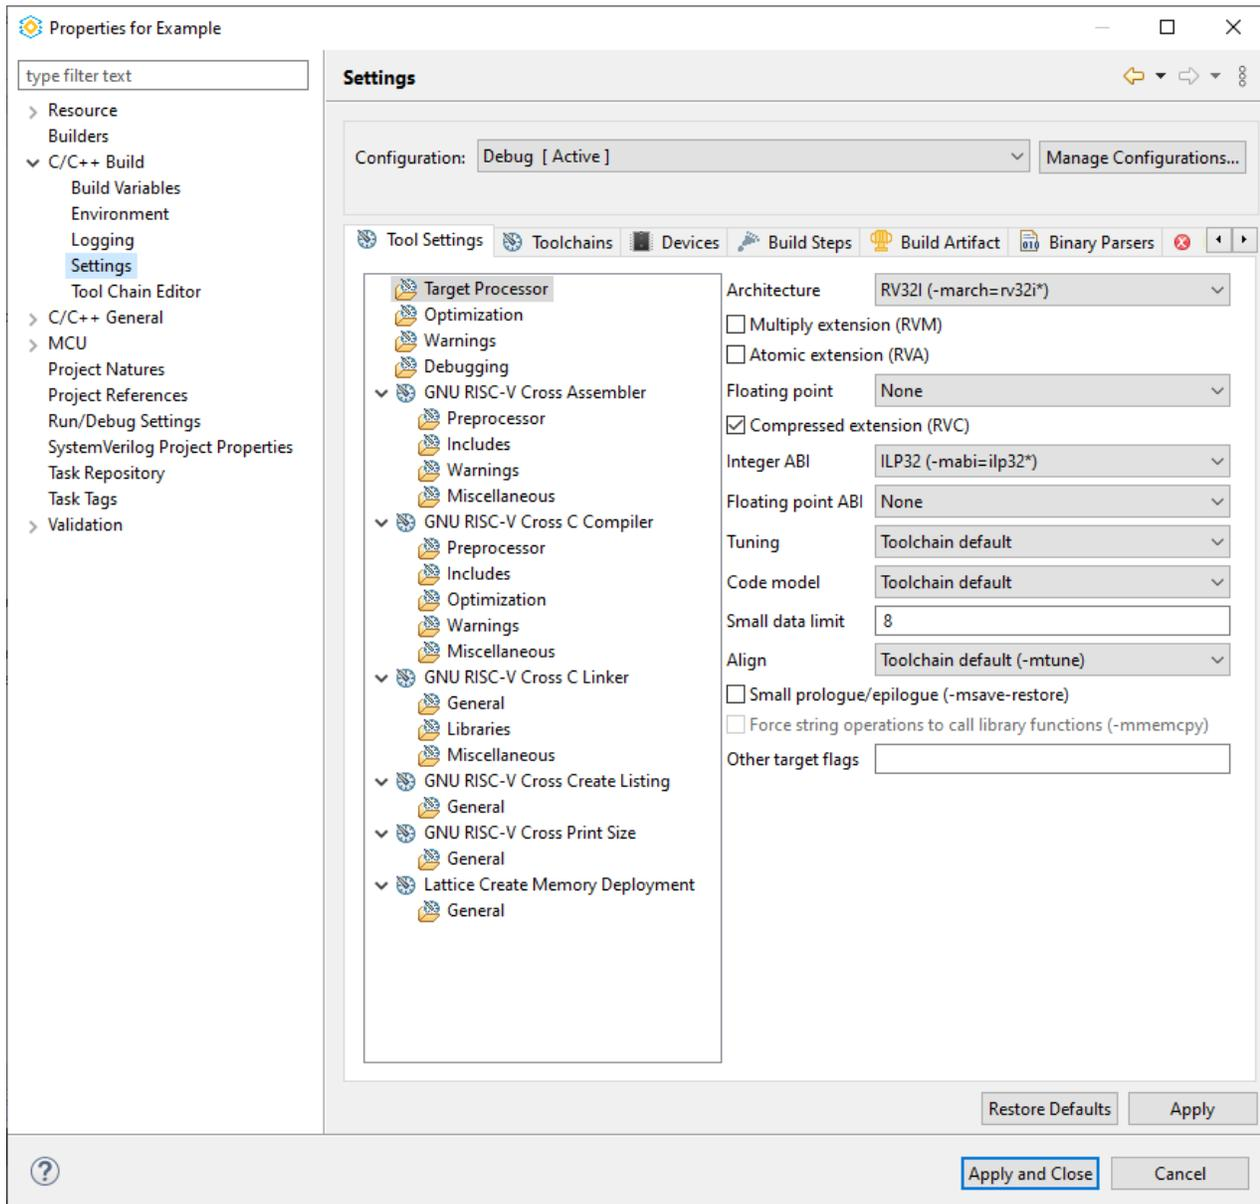

Figure 3.26. Properties of C/C++ Project
2. Choose **Project > Properties**. The Properties for current project opens (Figure 3.26).